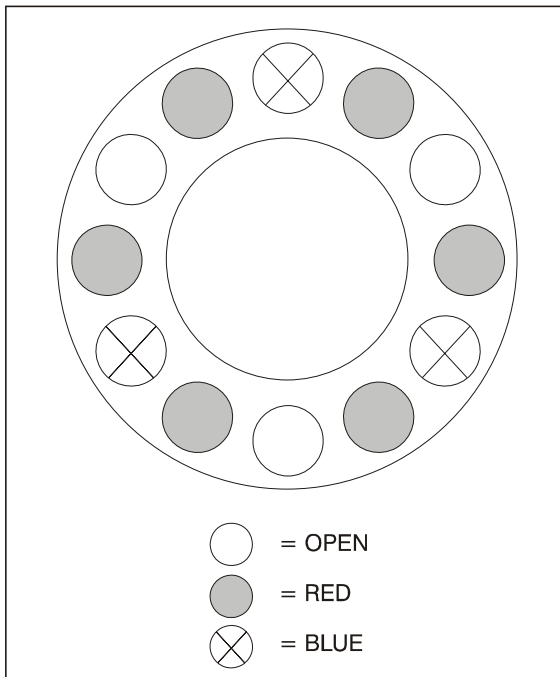

Figure 2-23. Spring Loading
5. Insert dowel pins (17), spring retainer (16) and springs (5 and 6) in housing. Insert the springs as shown in Figure 2-23., Spring Loading.